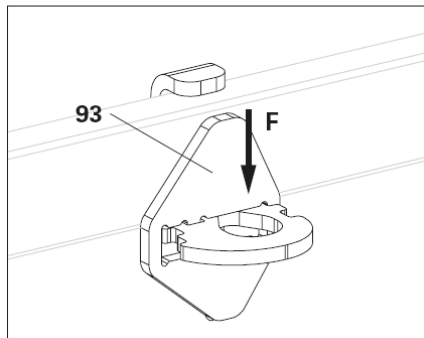

Fig. A11.06
- F adm. = 1,67 kN (Fig. A11.06)